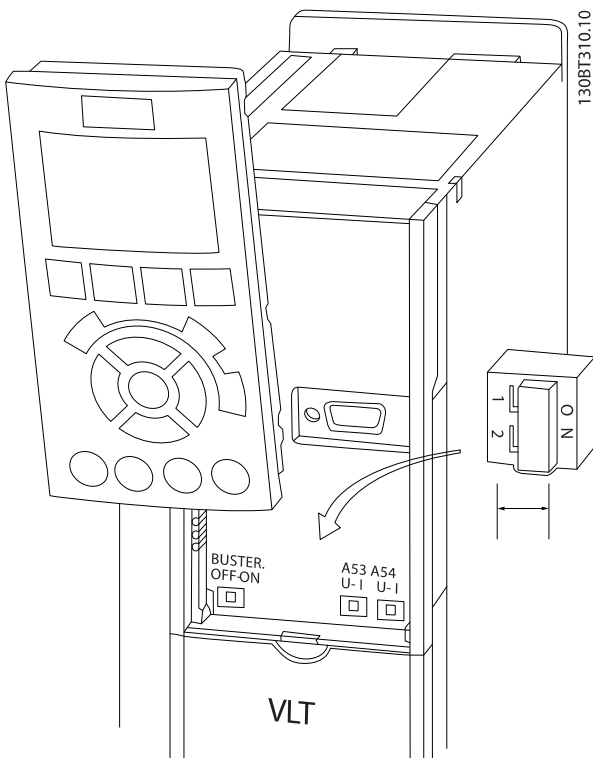

Figure 2.19 Location of Terminals 53 and 54 Switches
*Figure 2.19* shows the removable adjustable frequency drive connectors. Terminal functions and default settings are summarized in *Table 2.3*.
- The switches are accessible when the LCP has been removed (see *Figure 2.19*). Note that some option cards available for the unit may cover these switches and must be removed to change switch settings. Always remove power to the unit before removing option cards.